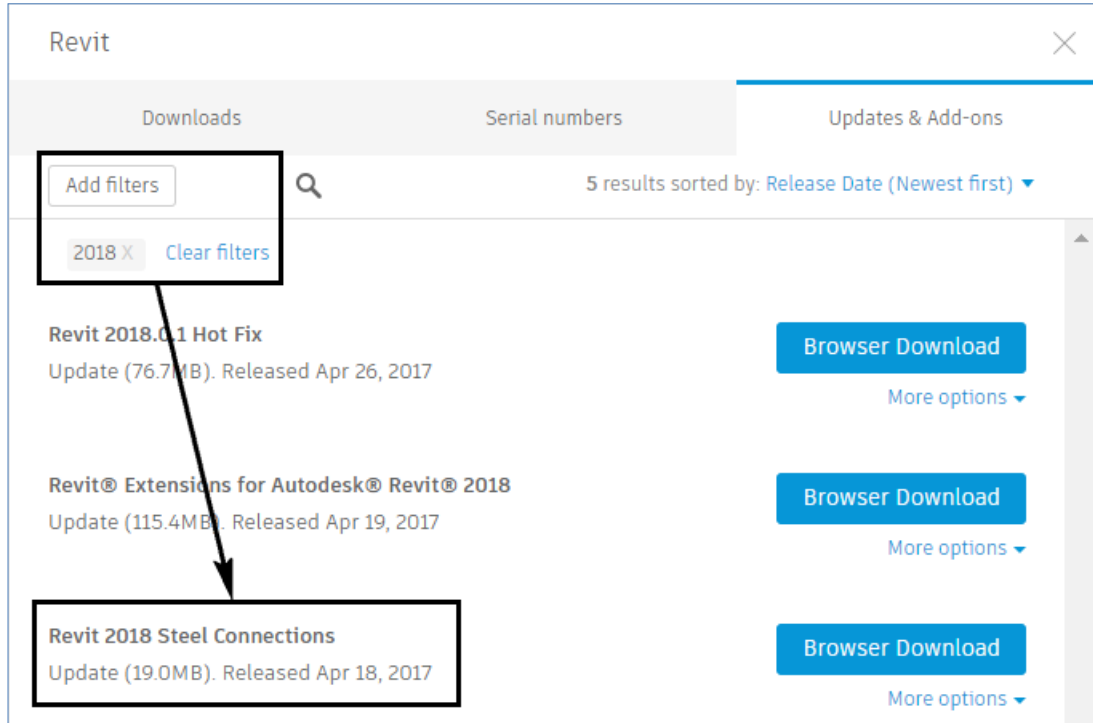

FIGURE 30: THE ADD-IN AVAILABLE IN THE LIST
3. On the window that will open, click on Updates & Add-ons; the steel connection add-in will be displayed in the list, as shown in Figure 30.